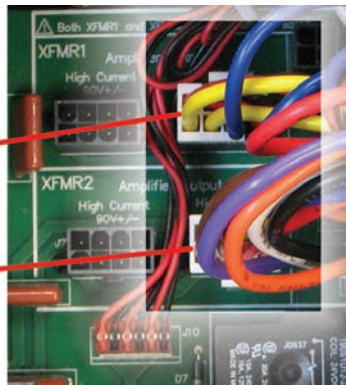

Figure 5.12 – J4 and J8 Plug Locations for High-Voltage Output
3. For High Voltage (180V) Output (see **Figure 5.12**).